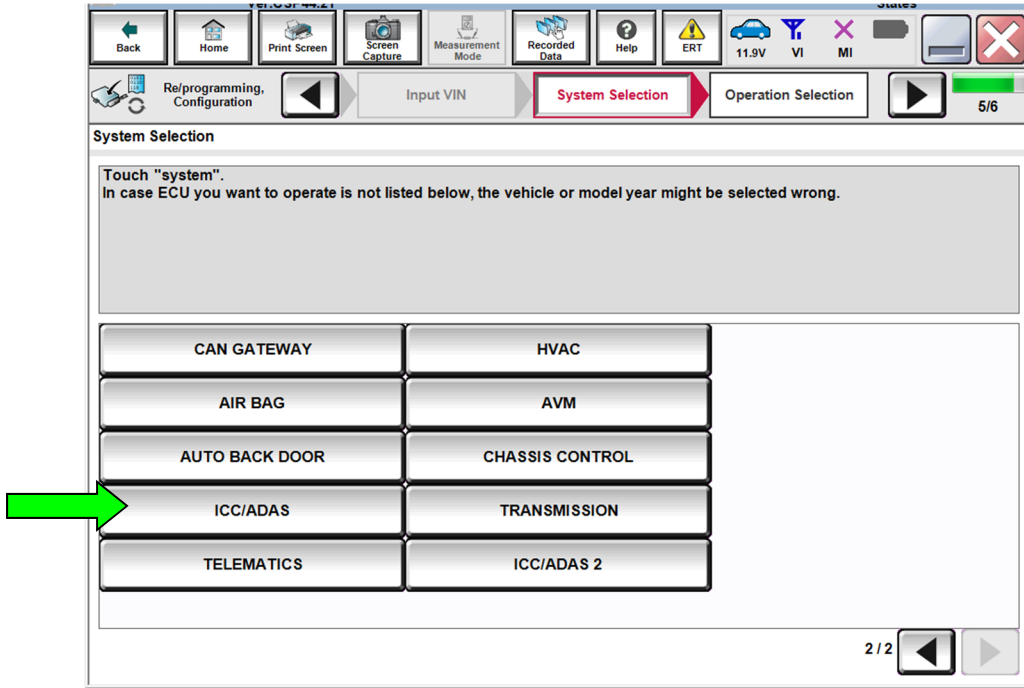

Figure 25
- 41. Refer to steps 1-17 starting on page 3 to navigate to Figure 25.